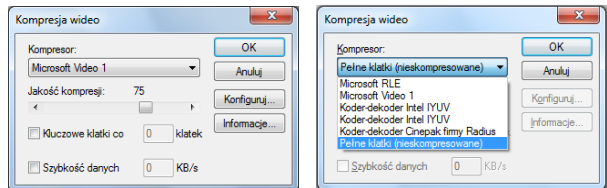

Fig. 314 – selecting codec
- in the next step – if it is the first time that an AVI file is saved to the disk after running CAD Decor program – it is necessary to select the codec (Fig. 314);